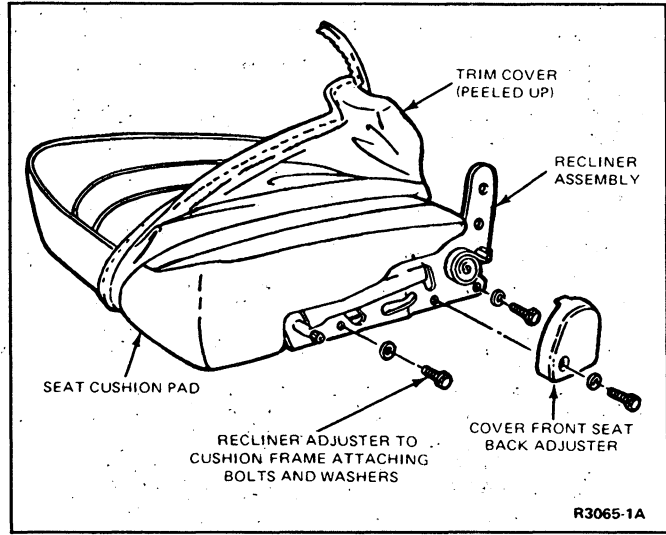

FIG. 12 Recliner Assembly
2. Install the three recliner assembly-to-seat cushion frame attaching bolts (Fig. 12).